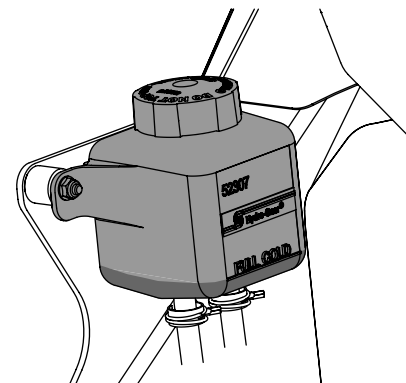

Figure 13
- Clean the reservoir cap and the area around the cap to prevent debris from contaminating the transmission oil. See Figure 13.
- Turn the reservoir cap counter-clockwise to remove, then check the oil level in the reservoir. Oil should be visible at the bottom of the cup, but the oil level must NOT be above the "FULL COLD" line. See Figure 13. DO NOT FILL THE RESERVOIR.